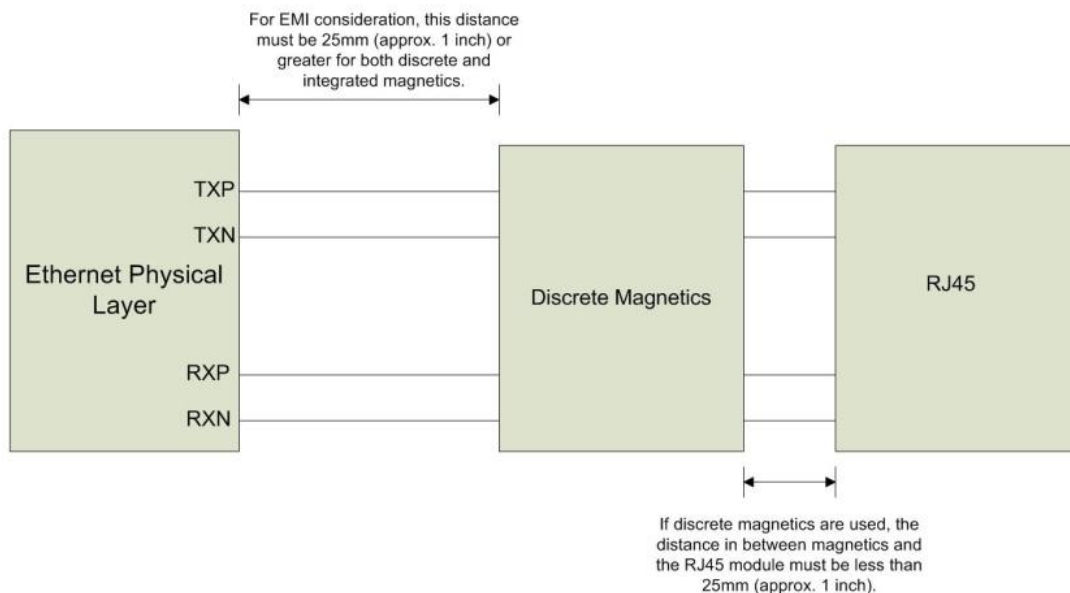

Figure 6-1: Discrete magnetic and RJ-45 Placement
- If the magnetic is a discrete component, then the distance between the magnetic and the RJ-45 needs to have the highest consideration and be kept to less than 25mm (approx. 1 inch) of separation Refer to Figure 6-1.